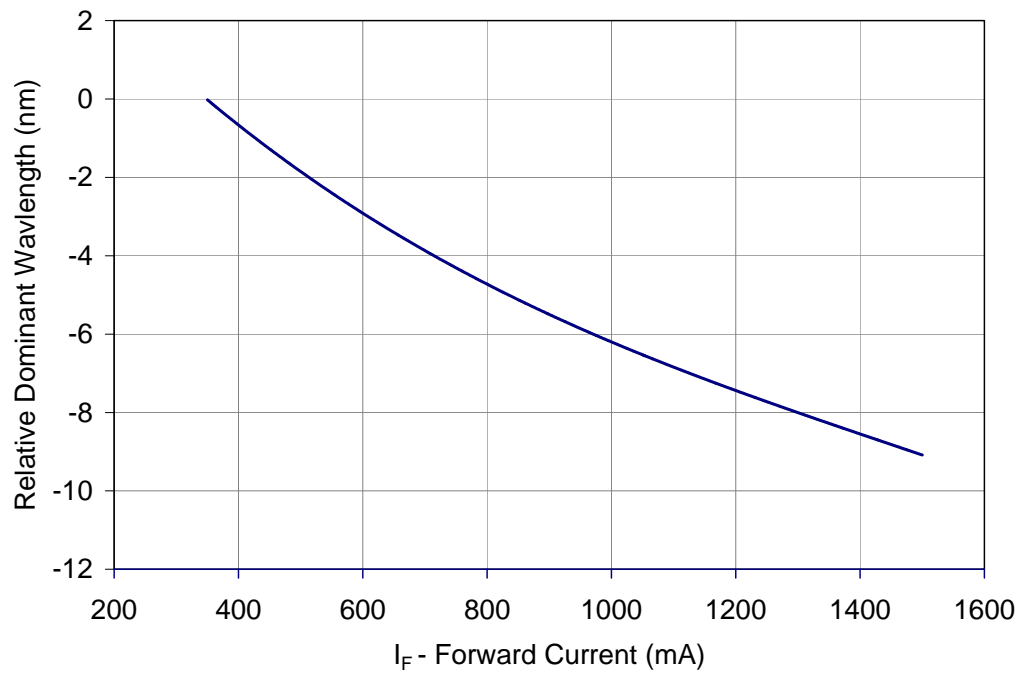

Figure 6: Typical dominant wavelength shift vs. forward current @ T_C = 25°C.
3. Refer to Figure 6 for typical dominant wavelength shift over forward current.
- Refer to Figure 6 for typical dominant wavelength shift over forward current.